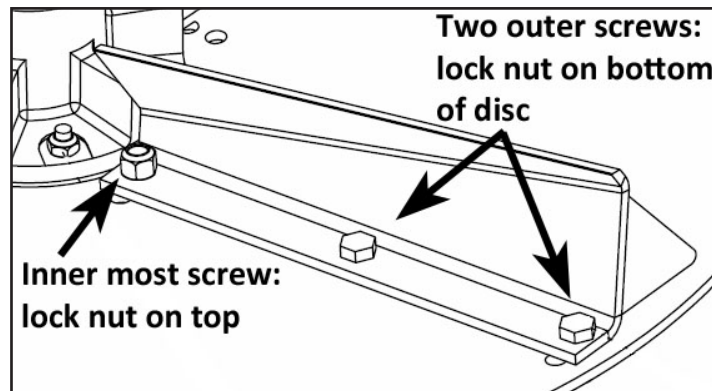

Figure 4 - Detail of cap screw positions
5. Place capscrew in outer fin mounting hole from top side, through fin then spinner disc, as shown in Figure 4. On the underside of disc, place lock nut on screw and tighten by hand.
8. Install inner cap screw in opposite direction, from bottom side, through spinner disc then fin (Figure 4). Install lock nut and tighten by hand.